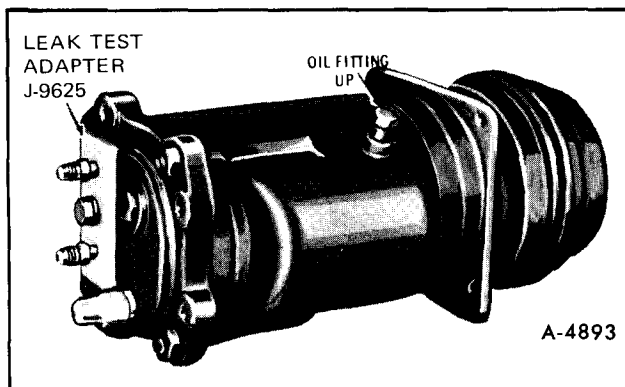

Figure 61—Leak Testing Compressor
6. Install Compressor Leak Test Fixture J-9625 on rear head of compressor and connect gage charging lines as shown for bench test in Figure 61 or pressurize SUCTION SIDE of compressor on car with Refrigerant-12 vapor to equalize pressure to the drum pressure. Temporarily install the shaft nut and, with compressor in horizontal position and oil sump down, rotate the compressor shaft in normal direction of rotation several times by hand. Leak test the seal with an electronic-type Leak Detector. Correct any leak found. Remove and discard the shaft nut.